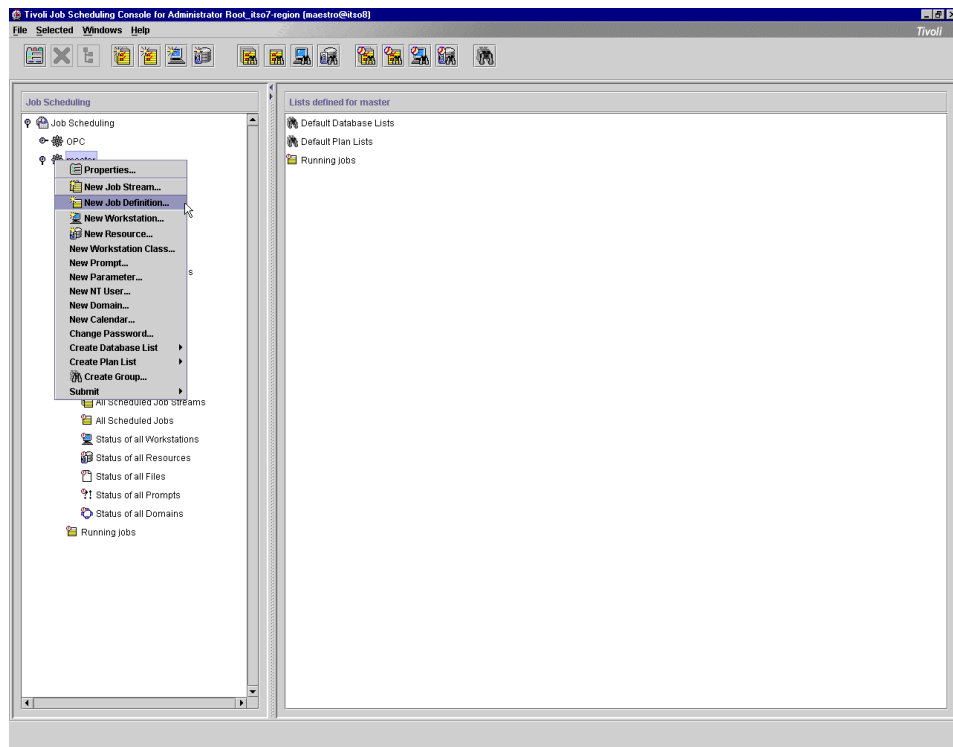

Figure 159. Create a new job definition in TWS
1. From Pull-down menu, select **Selected - New Job Definition** as shown in Figure 159.